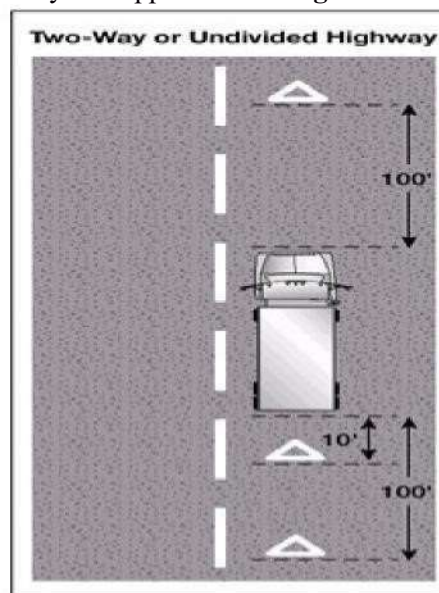

Figure 2.9
- If you stop on a two-lane road carrying traffic in both directions or on an undivided highway, place warning devices within 10 feet of the front or rear corners to mark the location of the vehicle and 100 feet behind and ahead of the vehicle, on the shoulder or in the lane you stopped in. See **Figure 2.9**